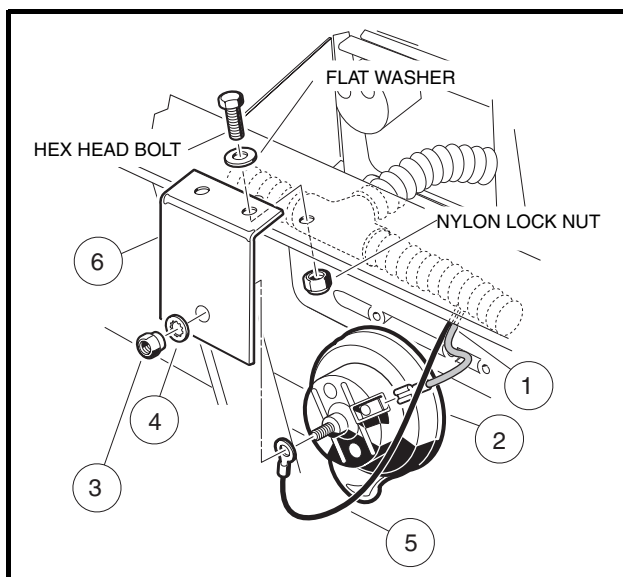

Figure 12-22 Horn
3. Disconnect the orange wire (1) from the horn (2) (**Figure 12-22, Page 12-23**).
4. Remove the hex nut (3), lockwasher (4), and the black wire (5) from the mounting stud on the front of the horn.
2. Install the horn stud through the mounting bracket (6). Install the lockwasher and nut onto the mounting stud and tighten the horn to 8 ft-lb (10.8 N·m) (**Figure 12-22, Page 12-23**). See following **NOTE**.